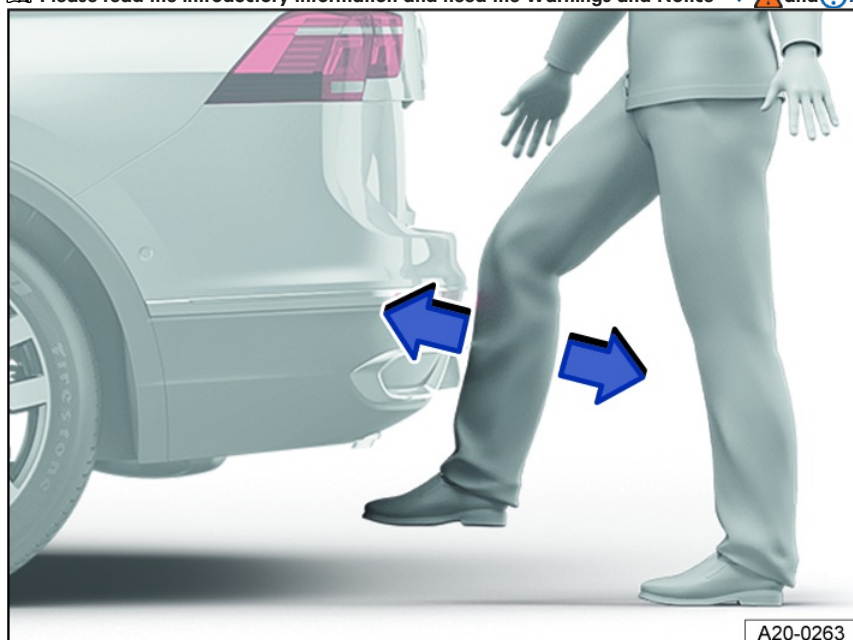

Fig. 62 General example of the sensor-controlled luggage compartment opener (Easy Open).
2. Quickly swing the lower part of your leg close to the bumper fig. 62.